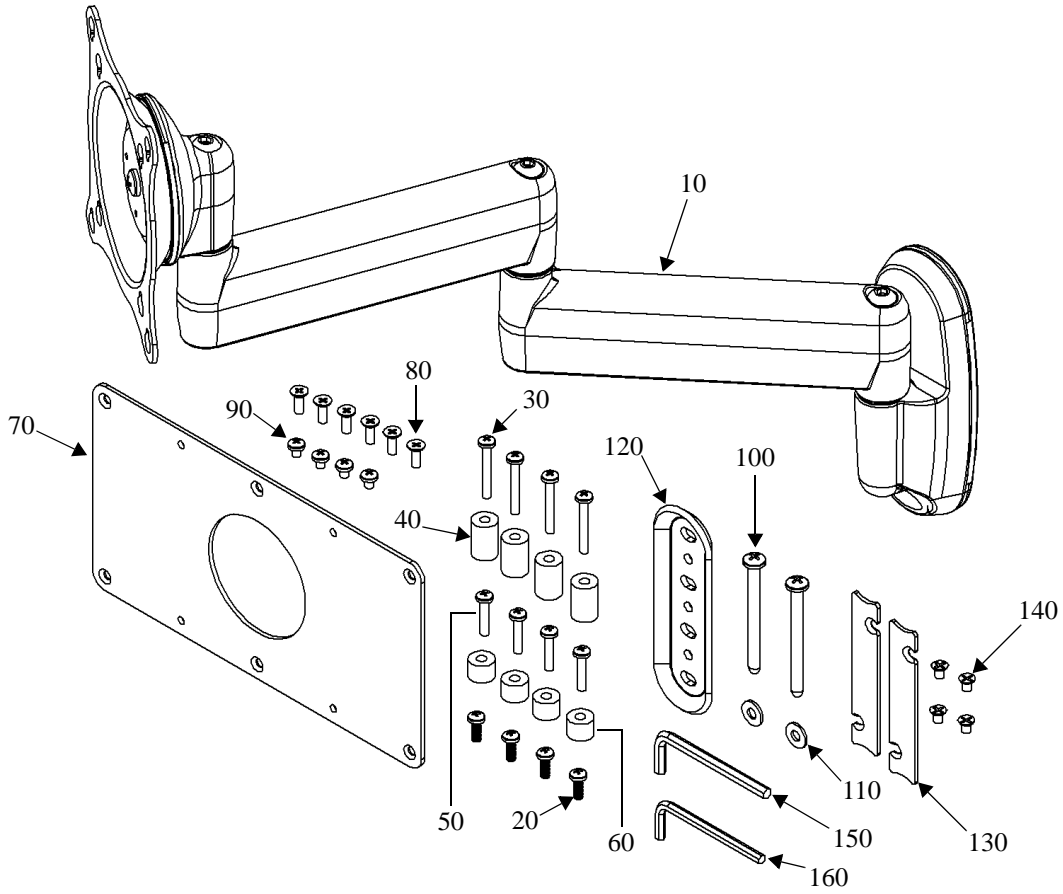

Figure 1. FWD-111 Components
2. Lay out components to ensure you have all the required parts before proceeding (refer to Figure 1 on page 4).